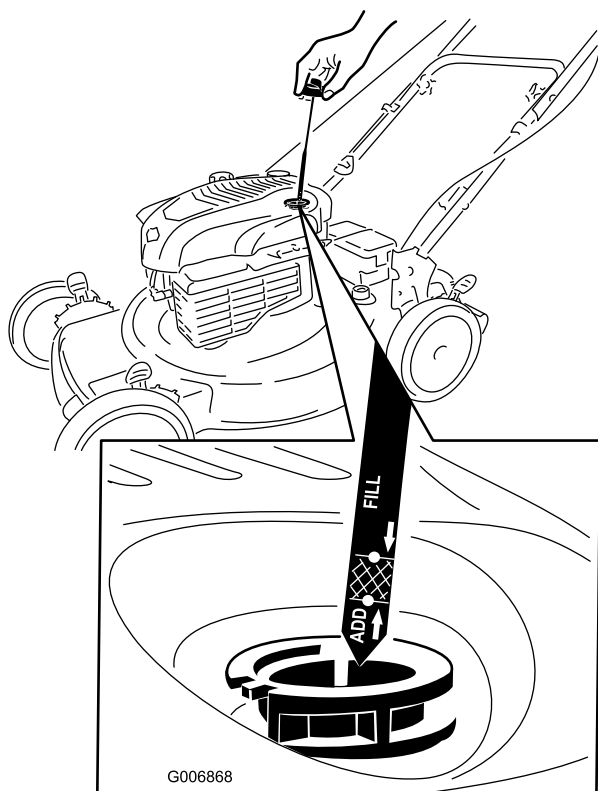

Figure 12
1. Remove the dipstick, wipe it clean, and fully install the dipstick (Figure 12).
2. Remove the dipstick and check the oil level (Figure 12). If the oil level is below the **Add** mark on the dipstick, **slowly** pour oil into the oil fill tube to raise the oil level to the **Full** mark on the dipstick. **Do not overfill.** (Max. fill: 20 oz. (0.59 l), type: SAE